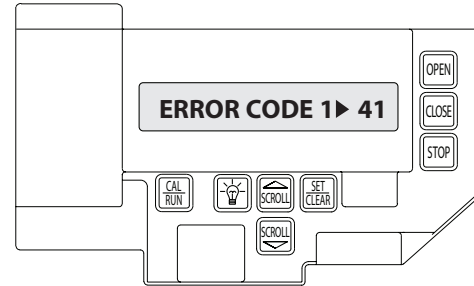

Figure 1
- 2) Press SCROLL  until display reads "CYCLES>1,2,3 etc. where the number is the number of open/close cycles the operator has performed. **Figure 1**
The error code memory stores the last 10 error codes in sequence. Once 10 codes are stored, the oldest code is erased to make room for the newest code. These codes are displayed in calibration mode. The display will flash the number of the error code and the 2-digit error code followed by a description of the error code. **Fig. 1 & 2.**